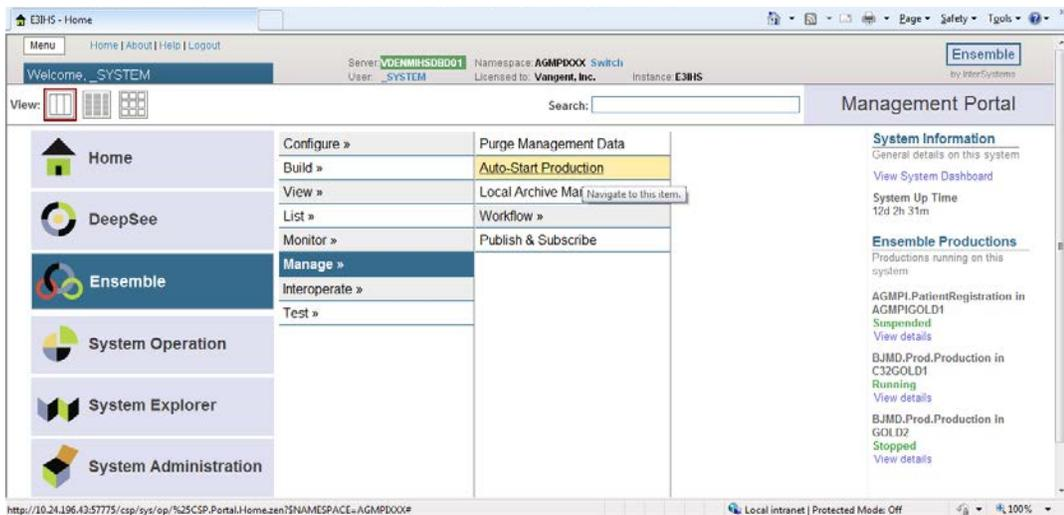

Figure 9-4: **Ensemble Manage Auto-Start Production** option
- Click **Ensemble**, then click **Manage**, then click **Auto-Start Production**, as shown in Figure 9-4.